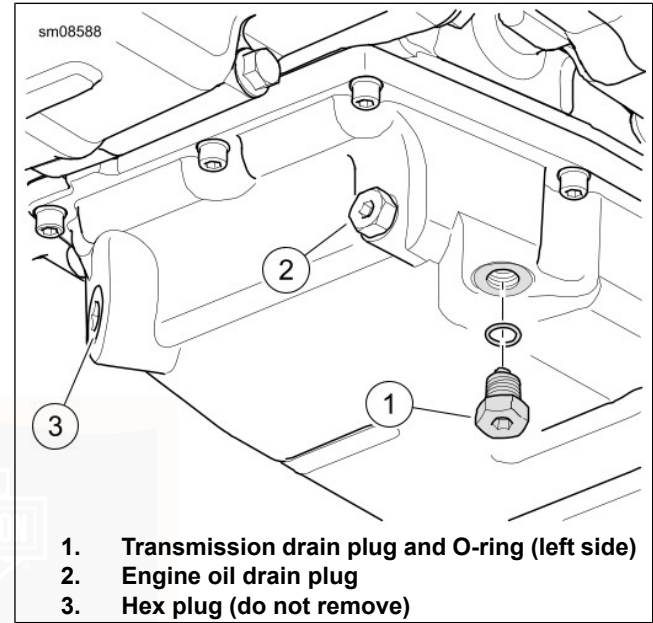

Figure 51. Transmission Drain
2. See Figure 51. Remove transmission drain plug. Drain transmission.